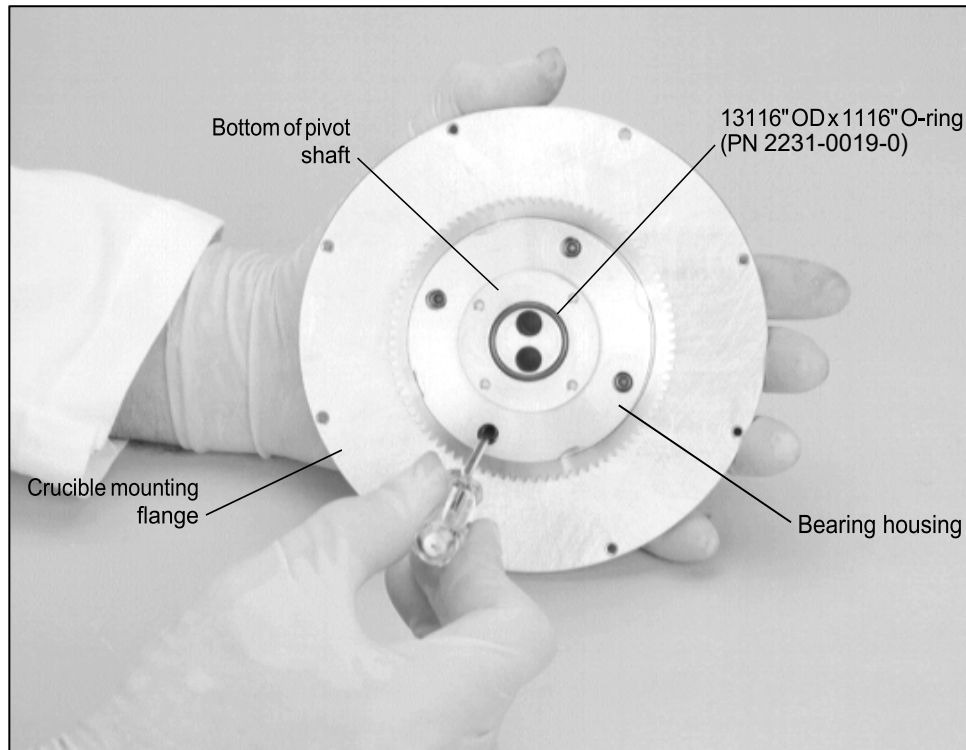

Figure 5-14. Removing the Screws that Secure Bearing Housing Assembly to Crucible Mounting Flange
Step 19: Remove the four 5-32 × 5/8-in. screws that secure the bearing housing to the crucible mounting flange. To do so, hold the bearing housing-mounting flange assembly in one hand, with the top of the mounting flange facing down. Then insert the Allen driver into the recesses in the bearing housing that hold the four screws and remove them, as shown in Figure 5-14.